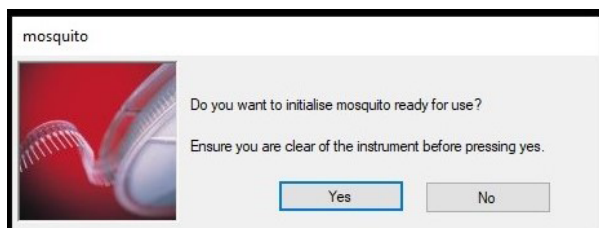

Figure 14. Prompt
4. When a prompt asks if you want to initialize the instrument, make sure that the Plate deck is empty and click Yes (Figure 14).